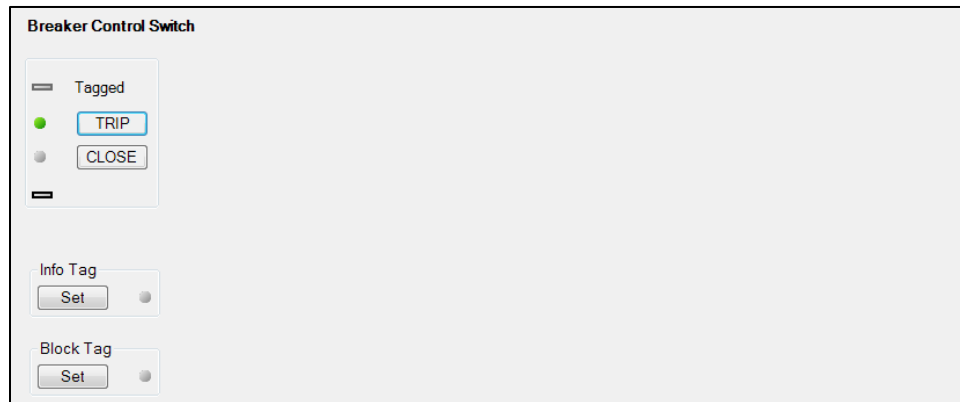

Figure 27-2. Breaker Control Switch Control Screen
1. Use the Metering Explorer to open the Control/Breaker Control Switch tree branch (Figure 27-2).